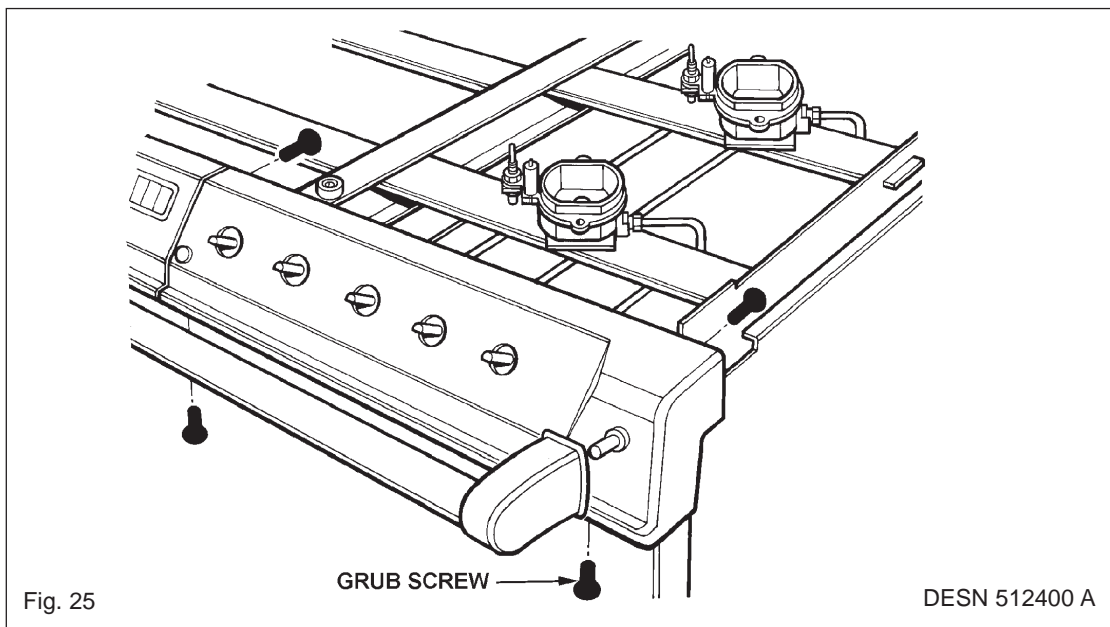

Fig. 25
4. Remove control panel fixing screws (4 per casting) (See Fig. 25). When removing the screws support the casting.
**D. TO REMOVE HANDRAIL (SEE FIG. 25)**
1. Loosen 2 grub screws, one at each end of hand rail (see fig. 25) using 2 1/2 mm socket key.